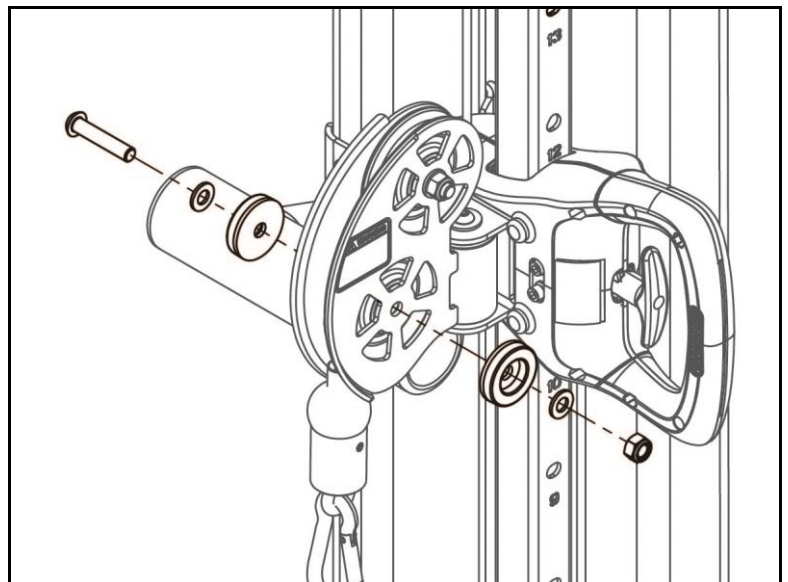

Fig. 17
16. Replace the hardware for the lower cable pulley (Fig. 17) of on the pulley bracket assembly using a 6mm hex key and a 17mm socket to add a round plastic bumper to each side of the bracket.